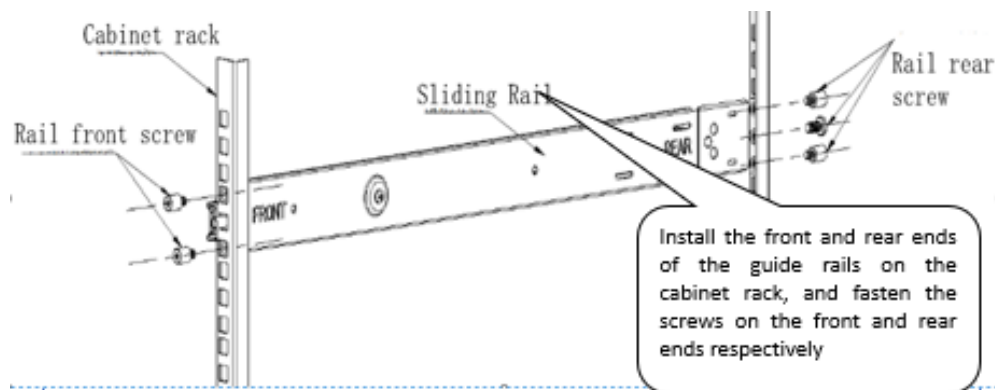

Figure 3-9 Schematic diagram of sliding guide rail installed on the cabinet
2. Install the sliding guide rail on the cabinet, as shown in Figure 3-9 Schematic diagram of sliding guide rail installed on the cabinet